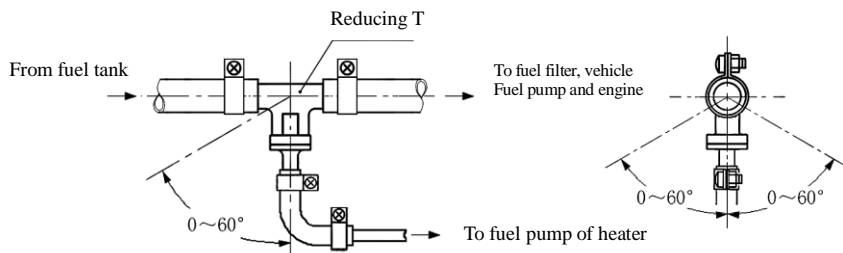

Fig. 19
4.4.6.2 If fuel is sucked from the fuel pipe to the engine, the fuel pipe from the fuel tank to the fuel filter shall be disconnected and re-connected with the thicker pipes of the reducing T and the thinner pipe of the reducing T shall connect the fuel pump of the heater via oil pipe fitting and fuel pipe. Must ensure fuel extraction without any pressure and extract the fuel smoothly when the car is stopping. The angle for installation must in conformity with Fig. 19, or normal work of the heater will be affected.